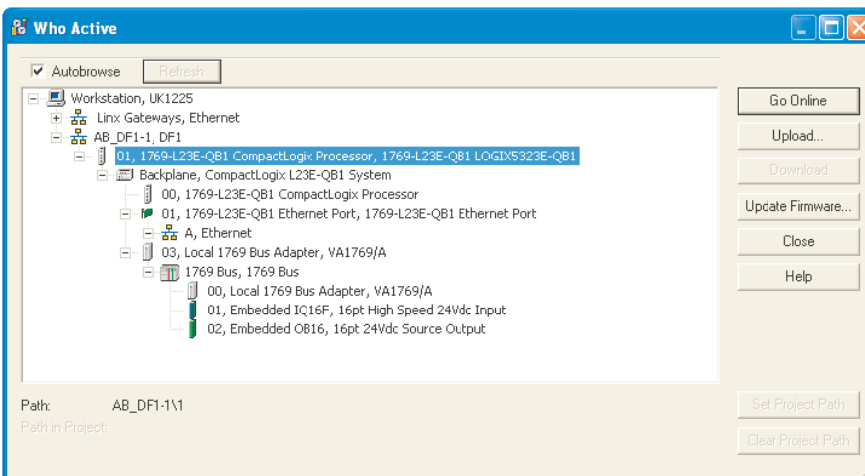

Figure 4.3.21f Who active window
1. Select the relevant instrument (figure 4.3.21f) and click on 'Update Firmware'. In the 'Choose Firmware Revision' window, select the latest version. Click on 'Update'.